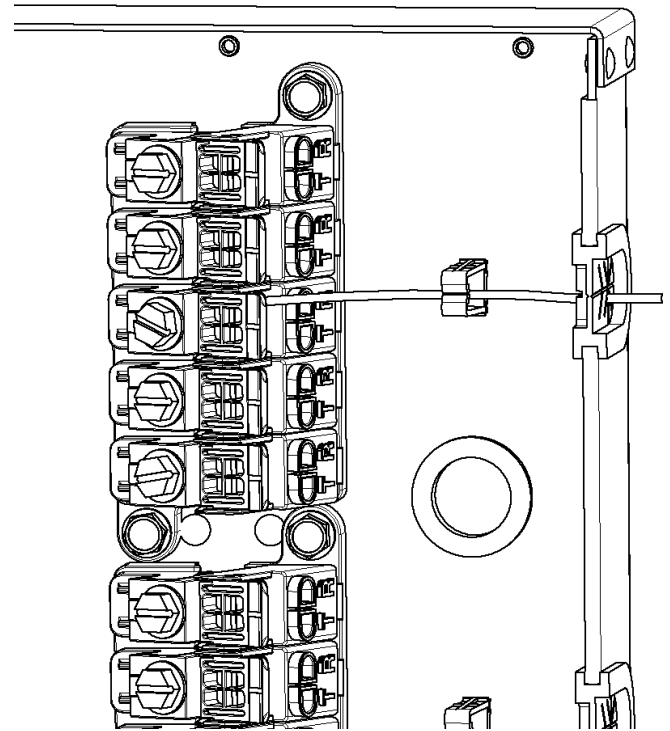

Figure 5
4. After terminating wire in the rocker, place wire through wire loop and grommet in the housing (Figure 5).